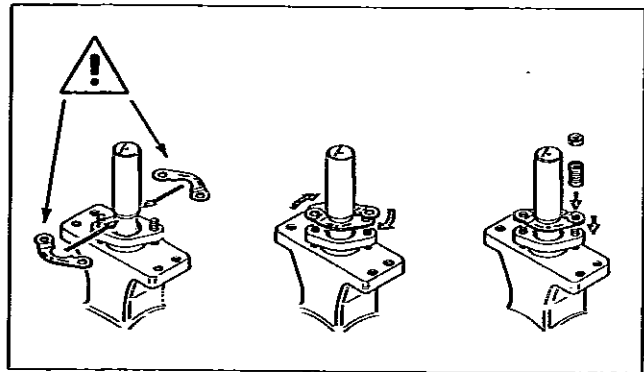

Fig. 9. Mounting the retaining plate
- Unfasten the nuts (25) and remove the TA-Luft kits (44), the retaining plates (42) and the gland (9).
- Remove old packing rings (20). Do not damage the surfaces of the packing ring counterbore and shaft. It is not necessary to change anti-extrusion ring (22).
- Mount the retaining plates with the text UPSIDE on top (see Fig. 9).